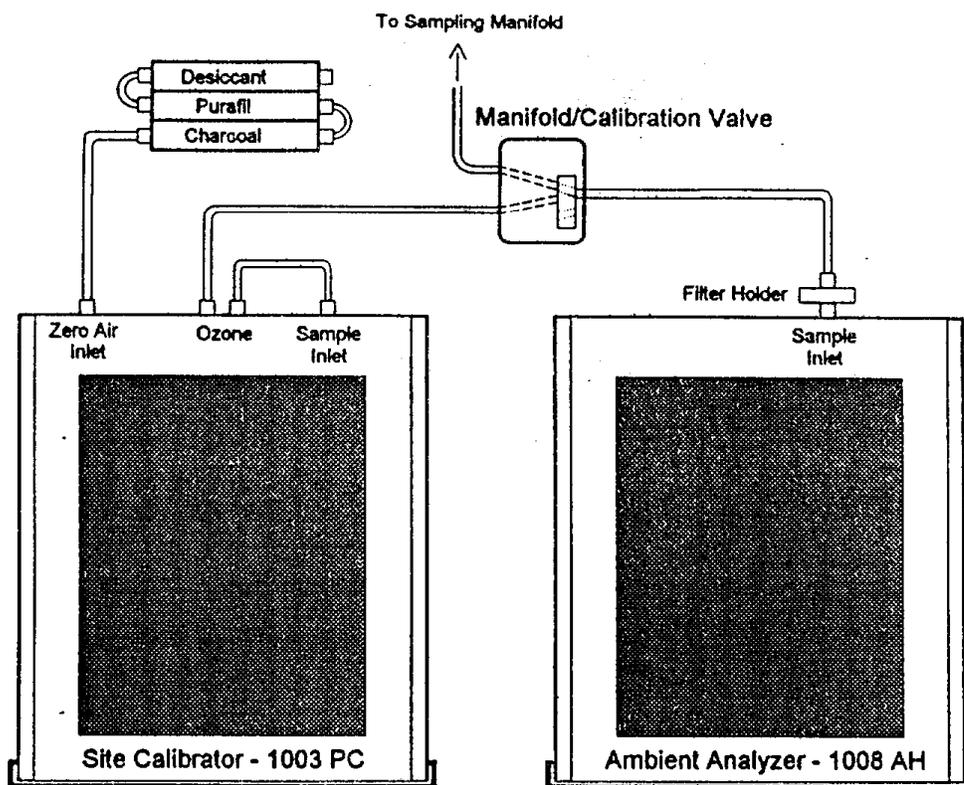

Figure 4-2. Dasibi 1003 PC connections for routine monitoring.
- Connect another one of the OZONE OUTLET ports to the normally closed (calibration) side of manifold/calibration solenoid. Remove cap from the remaining OZONE OUTLET and the EXHAUST port. Make all connections with 1/4 inch Teflon tubing, using tube lengths as short as is practical. Connections are shown in Figure 4-2.